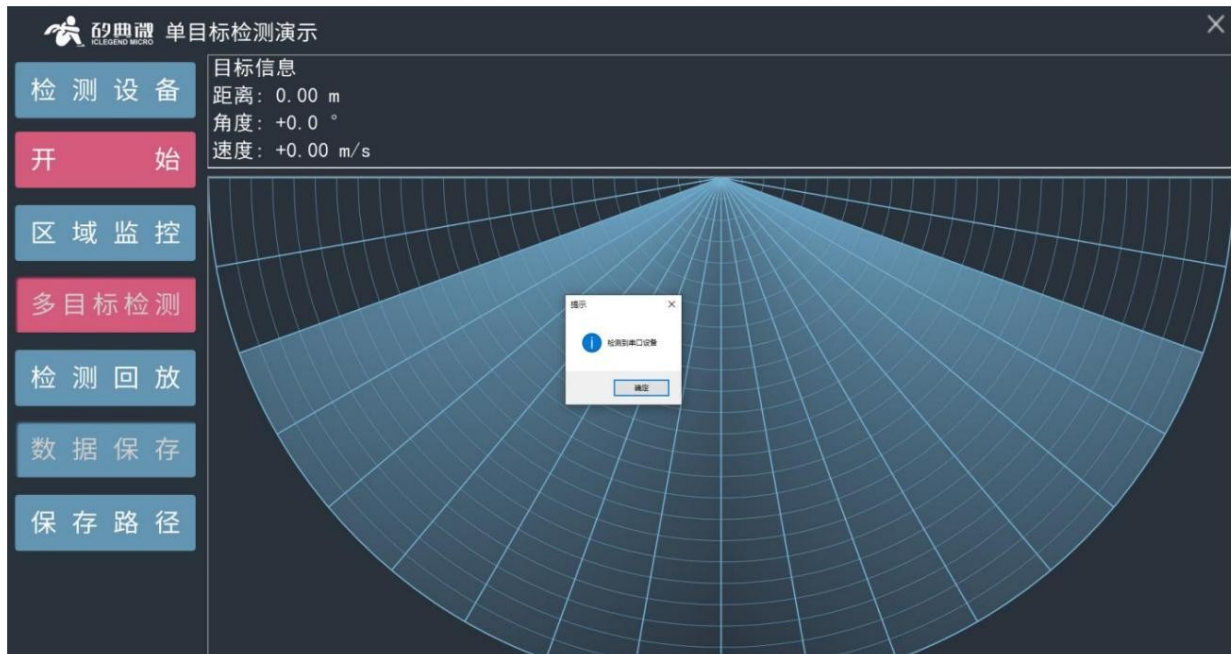

Figure 2.2.1 Device successfully detected
Step 2: Click the "Detect Device" button on the interface. If the serial port connection is correct, a prompt box "Serial port device detected" will pop up on the interface, as shown in Figure 2.2.1. Click "OK" to continue.